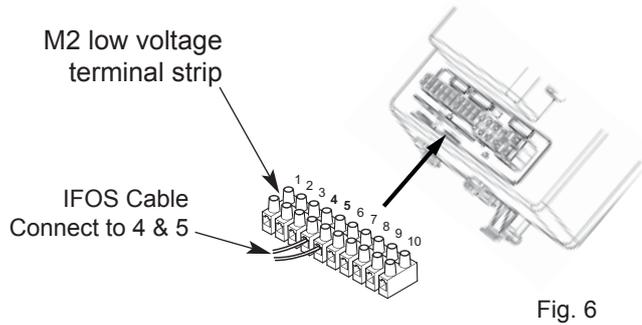

Fig. 6
3. Connect the IFOS cable to 4 & 5 on the M2 low voltage 10 way terminal strip (Fig. 6) then refit the cover. There is no polarity.